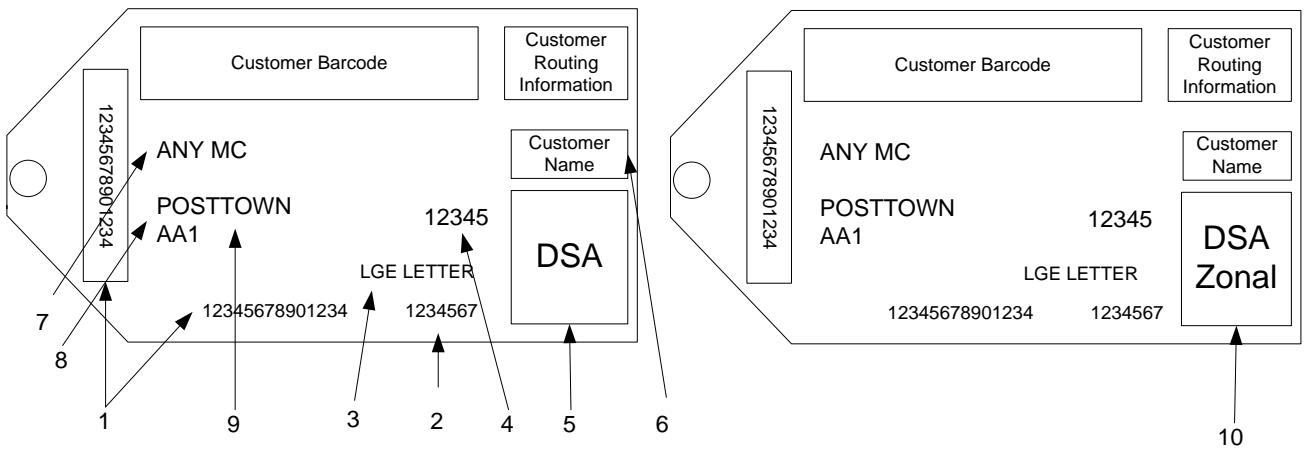

Figure 11: Bag label National (left label example) and Zonal options (right label example)
- Figures 11 to 13 below are examples of what a Container label looks like, including the information to include, the specifications for field size, fonts and formatting. Please note all fields are aligned left, unless otherwise stated.
- The below table provides further detail of what information against each of the label indicators in the above Figures 11 to 13, you are required to include on the labels:
| 1 | Unique Container Identification Number | This is an identifying number unique to that Container (maximum of 14 characters). The same unique number is to be printed on the Manifest against the description of that Container's contents. It is optional whether you want to repeat the unique Container ID when using bags on the vertical axis as illustrated in Figure 11. | | | | | | | | | | | | | | |